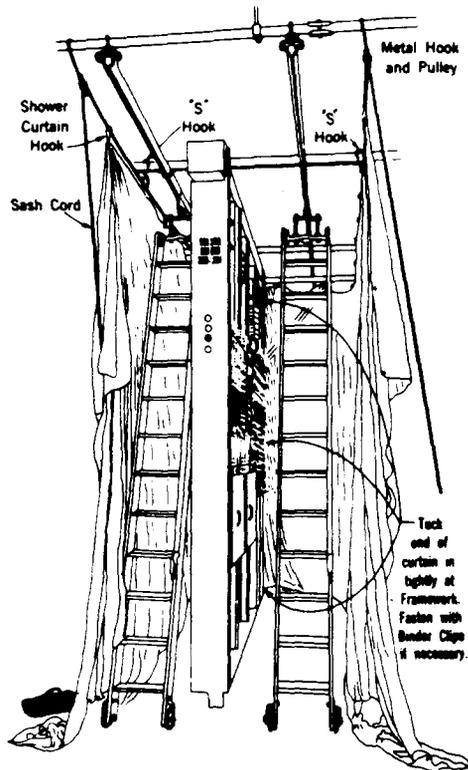

Fig. 3—Curtains With Rolling Ladders in Place
**4.06** A rolling ladder shall be placed within the curtain enclosure on each side of the frame to be cleaned. (See Fig. 3.)
be used advantageously in some cases to hold these ends securely in place. (See Fig. 3 and 4.)